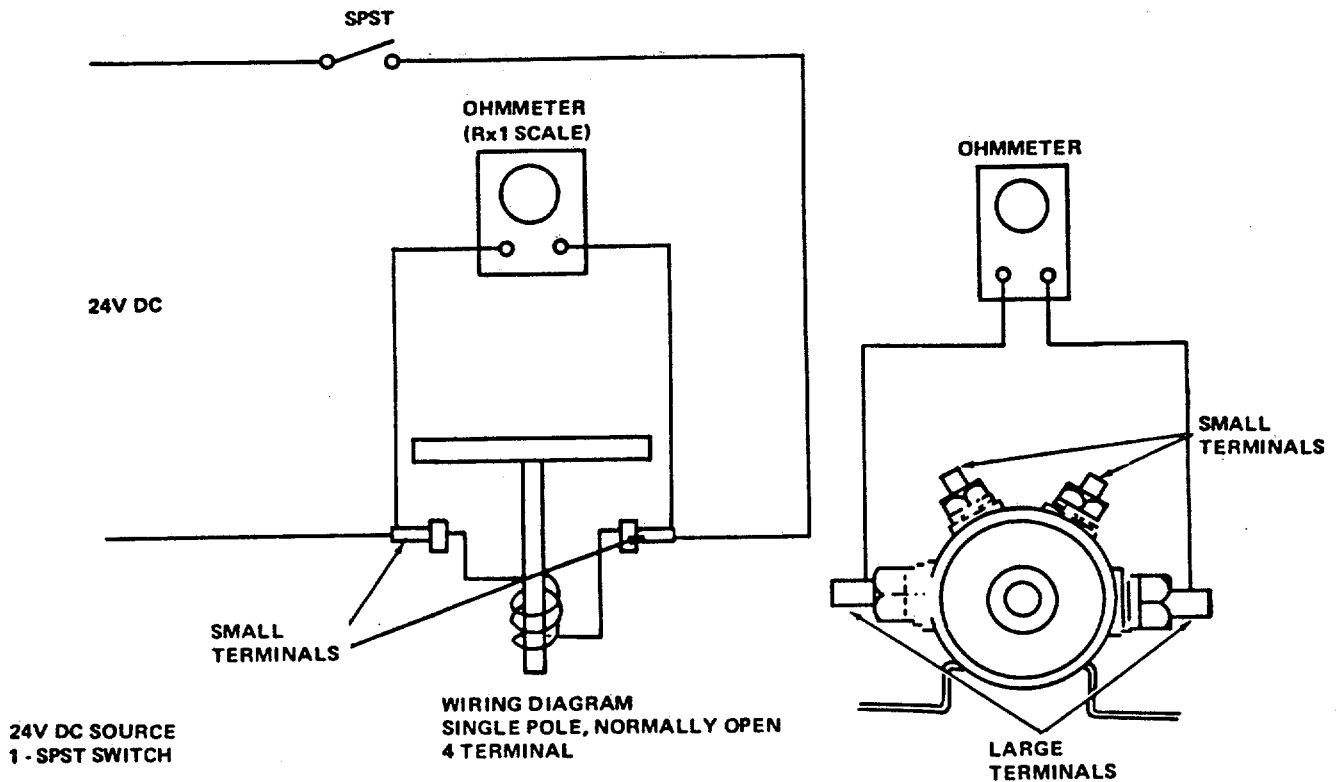

Figure 4-2. Fuel Transfer Pump Relay K20, Test Setup
- (1) Connect 24V DC to the small terminals on the contactor in series with a SPST switch as shown in figure 4-2.
- (2) Connect ohmmeter (Rx1) scale to the larger terminals of the contactor.
(3) Close the SPST switch. Ohmmeter should show continuity.
(4) Open the SPST switch. Connect ohmmeter to the smaller terminals. Meter should read approximately 60 ohms.